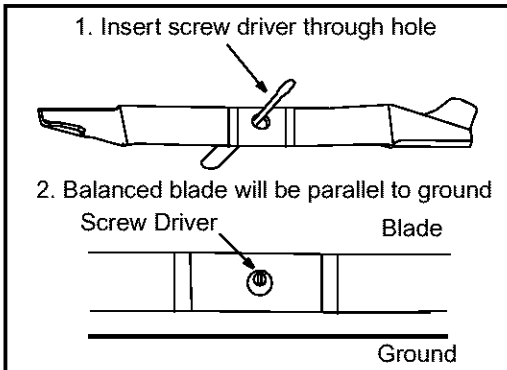

Figure 13
- Test the blade by balancing it on a round shaft screwdriver or a blade balancer as shown in Figure 13.